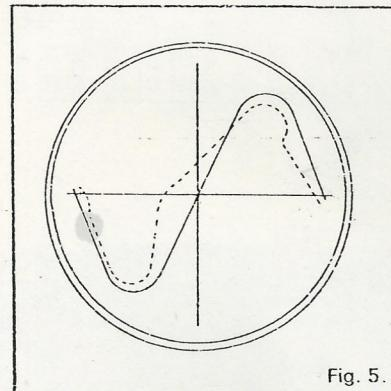

Fig. 5.
- (c) Next, connect the oscilloscope's previously connected TP.4 lead to the to TP.6. The waveform should be similar to Fig. 5. Adjust the primary and secondary coils of the IFT.4 to obtain a waveform with the highest/lowest peaks and superior linearity at the center position while performing the fine adjustments with the IFT in the FM PACK.